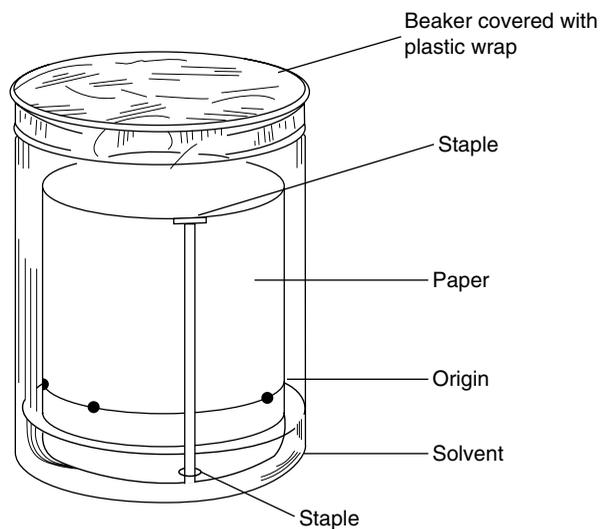

Figure 3.2
5. Form the paper into a cylinder without overlapping the edges. Fasten the paper with staples, as shown in Figure 3.2.
as shown in Figure 3.2. Replace the plastic film and wait as the solvent moves up the paper. Do not move the beaker or the solvent front will be uneven.